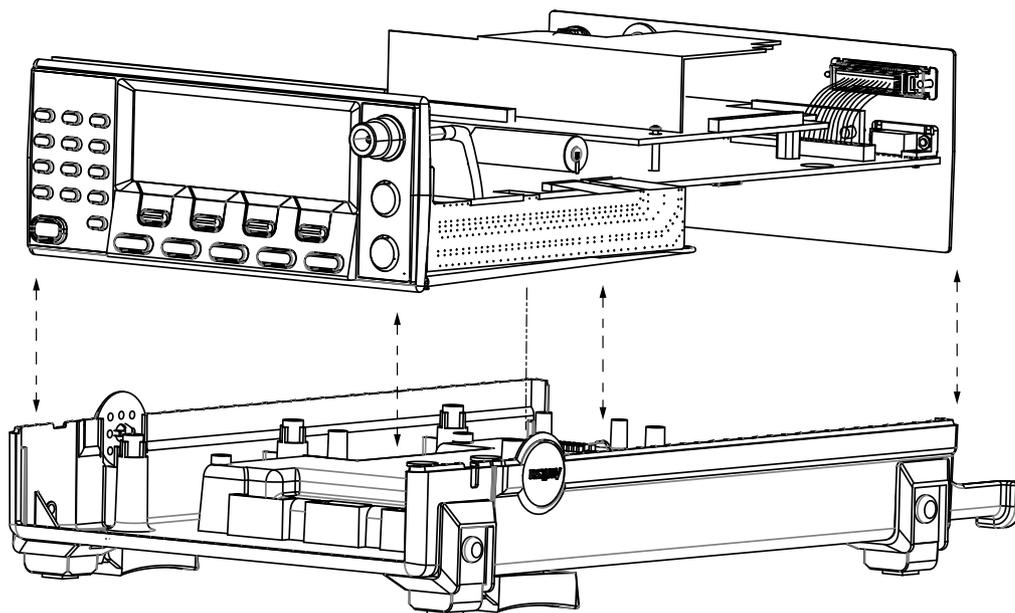

Figure 7-8. Lift Main PCB - Rear Panel - Front Panel Assembly
- Carefully lift the main PCB, with front and rear panels attached, straight up and clear of the bottom case as shown in Figure 7-8.